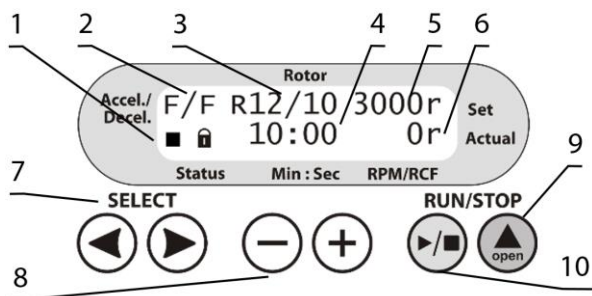

Figure 2. LMC-56 control panel.
- Check the power cable for any signs of damage. Connect the power cable to a properly grounded mains socket. Set the power switch on the unit to position **I** (on). Press the **▲ Open** key (fig. 2/9) and lift the lid by hand.
- Acceleration and deceleration modes (fig. 2/2);
- Set rotor speed in RPM or RCF¹ (fig. 2/6);
- Status icons of rotor, ■ stopped or ► running (fig. 2/1, first symbol);
- Status icons of lid, ■ closed or ► open (fig. 2/1, second symbol);
- Set time of centrifugation, in minutes and seconds (fig. 2/4);
- Actual rotor speed, in RPM or RCF (fig. 2/6);
- 5.4 Press the ▲ **Open** key (fig. 2/9) and lift the lid by hand. Check the rotor, buckets for any signs of wear or corrosion, and replace if necessary. Insert **EVEN** number of tubes/microtest plates in rotor one opposite another. The loading in the opposite tubes must be equal.
5.5 **Setting parameters.** Use the **SELECT** ◀ and ▶ keys (fig. 2/7) to choose a parameter and the – and + keys (fig. 2/8) to modify it. Selected parameter will be blinking. Program automatically saves any changes made after no keys are pressed for 2 seconds.
5.5.1 Acceleration modes (fig. 2/2, first letter). Three modes of acceleration are available, slow (shortened to **S**), normal (**N**) and fast (**F**).
5.5.2 Deceleration modes (fig. 2/2, second letter). Four modes of deceleration are available, free brake (**0**), slow (**S**), normal (**N**) and fast (**F**).
5.5.3 Installed rotor (fig. 2/3). Combinations of rotors, adapters and their maximum allowed speed is listed below in the table below:
5.5.4 Rotation parameters (fig. 2/5). Rotor speed can be set in RPM and in RCF, denoted after numeric value by **r** and **g**, accordingly. Values convert after changing units. RCF depends on the installed rotor, as shown in Table 1.
5.5.5 Time setting (fig. 2/4). Select duration of centrifugation in minutes, step 1 minute.
5.6 Close the lid carefully and smoothly until a clicking sound is heard. Icon ■ appears on the display (fig. 2/1).
5.7 Press the **RUN/STOP** ▶/■ key (fig. 2/10) to start centrifugation. Icon ▶ (fig. 2/1) and actual speed (fig. 2/6) are shown in the lower line of the display. The timer (fig. 2/4) starts the countdown after set speed is achieved.